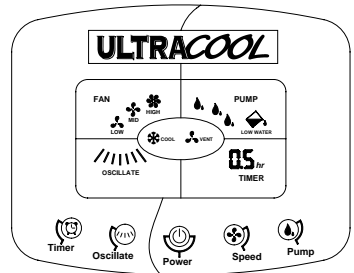

Fig. 3
*Refer to the control panel in figure 3 for the following instructions.*